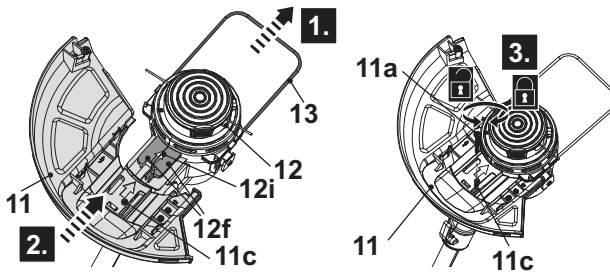

Fig. 1
1. Turn the trimmer head (12) upside down.
3. Put out the plant protector (13) firstly (Fig. 1, step 1), then align and slide the guard (11) onto the sliding slots (12f) of the trimmer head (12) (Fig. 1, step 2). Fully insert the guard (11) and make sure that the screw holes (11c, 12i) are well aligned.
4. Secure the guard (11) with the screw (11a) in clockwise (Fig. 1, step 3).